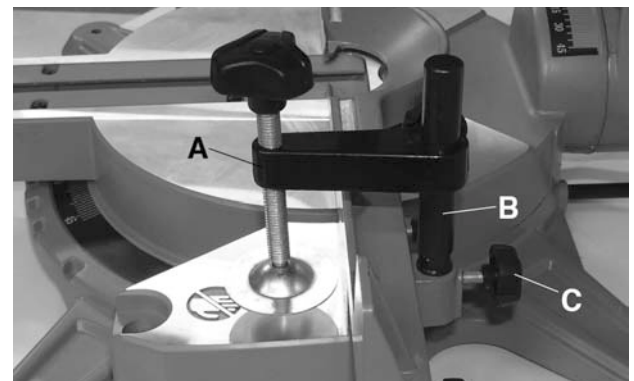

Figure 5
The vertical vise (A) Fig.5 can be installed in two positions on either the left or right side of the guide fence. Insert the vise rod (B) into the hole in the guide fence and tighten the vise lock knob (C) to secure the vise rod.